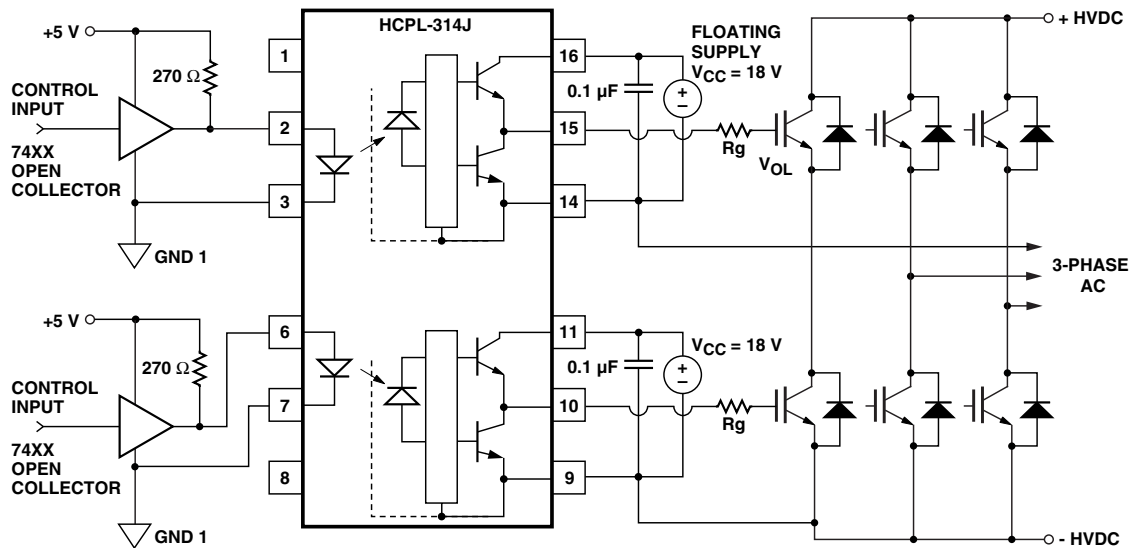
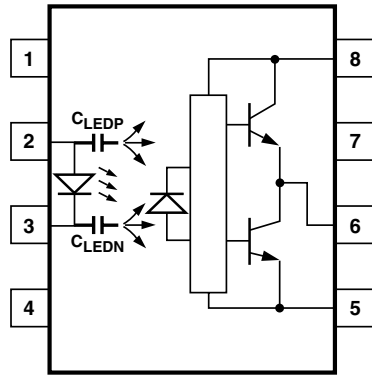
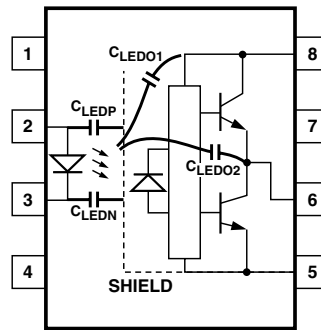
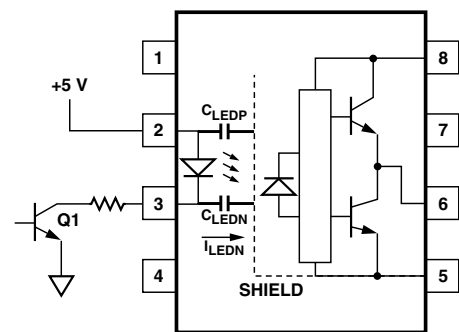

Figure 19. Recommended LED Drive and Application Circuit for HCPL-314J.
Figure 21. Optocoupler Input to Output Capacitance Model for Unshielded Optocouplers.
Figure 22. Optocoupler Input to Output Capacitance Model for Shielded Optocouplers.
Figure 24. Not Recommended Open Collector Drive Circuit.
To keep the IGBT firmly off, the HCPL-314J has a very low maximum  $V_{OL}$  specification of 1.0 V. Minimizing  $R_g$  and the lead inductance from the HCPL-314J to the IGBT gate and emitter (possibly by mounting the HCPL-314J on a small PC board directly above the IGBT) can eliminate the need for negative IGBT gate drive in many applications as shown in Figure 19. Care should be taken with such a PC board design to avoid routing the IGBT collector or emitter traces close to the HCPL-314J input as this can
result in unwanted coupling of transient signals into the input of HCPL-314J and degrade performance. (If the IGBT drain must be routed near the HCPL-314J input, then the LED should be reverse biased when in the off state, to prevent the transient signals coupled from the IGBT drain from turning on the HCPL-314J.) An external clamp diode may be connected between pins 14 & 15 and pins 9 & 10 (as shown in Figure 19) for the protection of HCPL-314J in the case of IGBTs switching inductive load.
**Step 1:** Calculate Rg minimum from the IOL peak specification. The IGBT and Rg in Figure 24 can be analyzed as a simple RC circuit with a voltage supplied by the HCPL-314J.
where  $K_{ICC} \cdot Q_g \cdot f$  is the increase in ICC due to switching and KICC is a constant of 0.001 mA/(nC·kHz). For the circuit in Figure 19 with IF (worst case) = 10 mA, Rg = 32 Ω, Max Duty Cycle = 80%, Qg = 100 nC, f = 20 kHz and TAMAX = 85°C:
Without a detector shield, the dominant cause of optocoupler CMR failure is capacitive coupling from the input side of the optocoupler, through the package, to the detector IC as shown in Figure 21. The HCPL-314J improves CMR performance by using a detector IC with an optically transparent Faraday shield, which diverts the capacitively coupled current away from the sensitive IC circuitry. However, this shield does not eliminate the capacitive coupling between the LED and optocoupler pins 5-8 as shown in Figure 22. This capacitive coupling causes perturbations in the LED current during common mode transients and becomes the major source of CMR failures for a shielded optocoupler. The main design objective of a high CMR LED drive circuit becomes keeping the LED in the proper state (on or off) during common mode transients. For example, the recommended application circuit (Figure 19), can achieve 10 kV/μs CMR while minimizing component complexity.
The open collector drive circuit, shown in Figure 24, can not keep the LED off during a  $+dV_{CM}/dt$  transient, since all the current flowing through  $C_{LEDN}$  must be supplied by the LED, and it is not recommended for applications requiring ultra high  $CMR_1$  performance. The alternative drive circuit which like the recommended application circuit (Figure 19), does achieve ultra high CMR performance by shunting the LED in the off state.